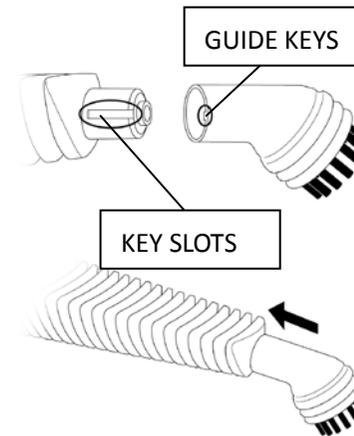

FIGURE 3
NOTE: The Nylon Utility Brush, Brass Utility Brush and Large Brush are all attached in the same manner. The Nylon Utility Brush is illustrated in FIGURE 3 as an example.
1. Align Brush with Jet Nozzle as shown. Guide key on back of Brush should line up with key slot on side of Jet Nozzle tip (FIGURE 3).
2. Firmly press Brush onto Jet Nozzle (FIGURE 3).